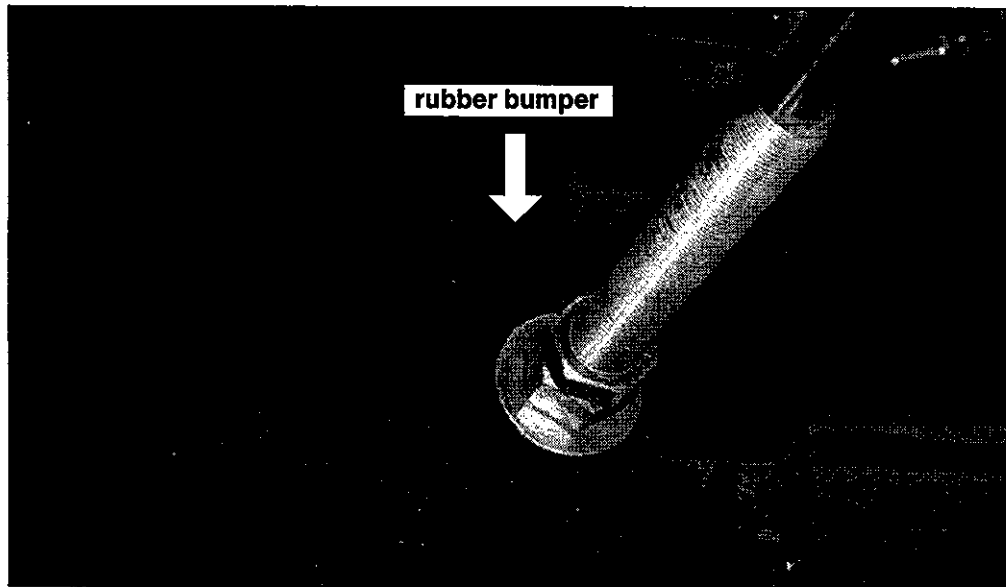

Figure 3. Reference photo.
11. Locate the four existing rubber bumpers on the tag axle suspension assembly (Figures 3 and 5).